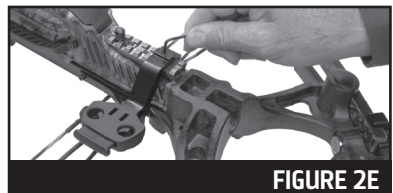

FIGURE 2E
2. Insert the quiver bracket screw into the center hole of the quiver bracket and secure using the supplied hex key as shown in Figure 2E.